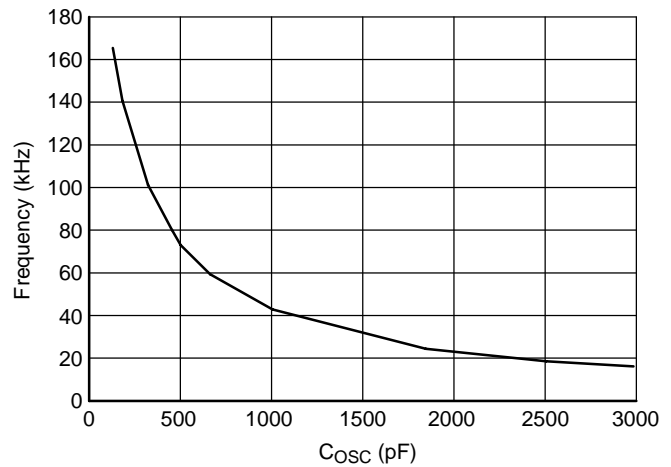

Figure 5. Oscillator Frequency (kHz) vs.  $C_{OSC}$  (pF), Assuming  $R_{BIAS} = 64.9 \text{ k}\Omega$
1. Refer to Figure 5 to determine oscillator frequency.
Choose  $C_{OSC}$  based on the target oscillator frequency with an external resistor value,  $R_{BIAS} = 64.9 \text{ k}\Omega$ . (See Figure 5).